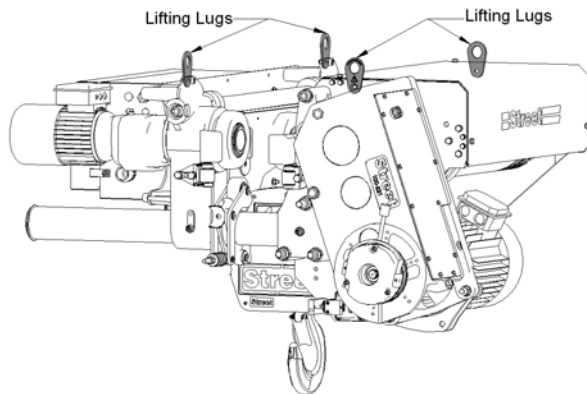

Figure 8 – Low Headroom 2&4 Fall Lifting Points
- Raise the hoist to runway level, use the lifting lugs provided see Figure 8.